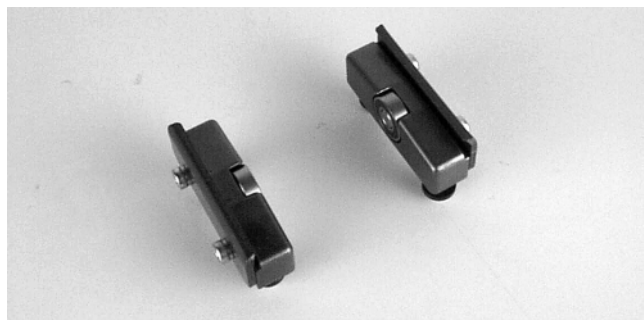

Figure 11
1. Typical components (Figure 11)